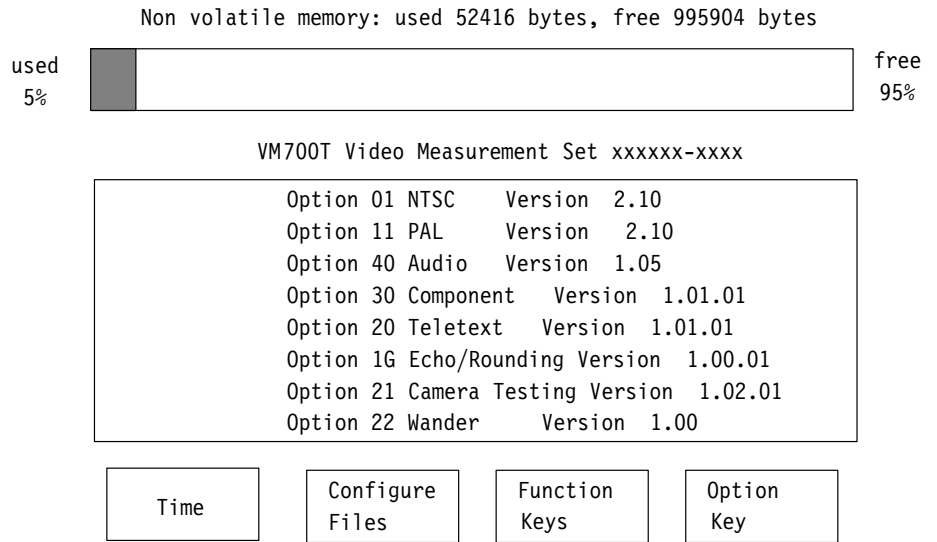

Figure 1: Typical Configure menu
- a. Press the front-panel **Configure** button to enable the measurement set Configuration mode. See Figure 1.
- b. Open the Wander-measurement configuration file you want to edit. To locate your existing Wander-measurement configuration file(s), first press the front-panel **Configure** button to enable the measurement set Configuration mode. See Figure 1.
- b.** Open the Wander-measurement video source file you want to edit. To locate your existing Wander-measurement video source file(s), first press the front-panel **Configure** button to enable the measurement set Configuration mode. See Figure 1.
1. Press the front-panel **Configure** button to enable the measurement set Configuration mode. See Figure 1.